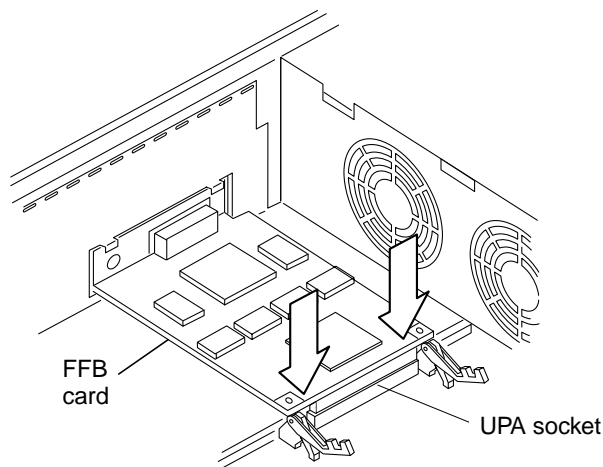

FIGURE 10-19 Seating an FFB Card Into the UPA Socket
5. Carefully press both corners of the FFB card evenly to seat the FFB card connector into the UPA socket (FIGURE 10-19).